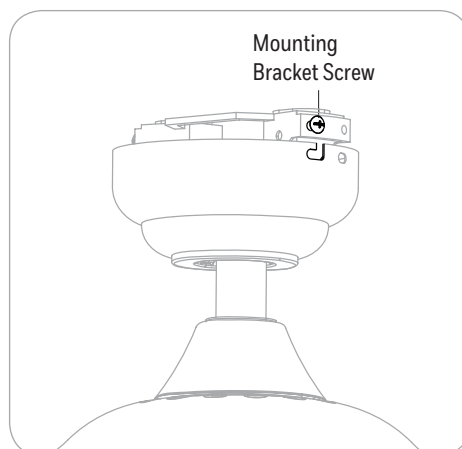

Figure 5.2
2. Align the canopy over the loosened mounting bracket screws. Place the J-slot of the canopy onto the mount bracket screws and rotate clockwise (Figure 5.2).